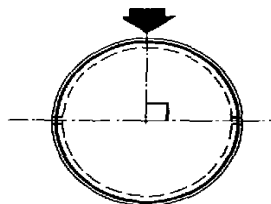

Fig. 205. Piston ring gap location, KKK-turbo
- Fit the piston type rings (10) in the grooves in the turbine rotor shaft and carefully feed the bearing housing over the shaft.
- Adjust the piston type rings so that their gaps are displaced at 180° to each other. Press the rings together and push them into the bearing housing with the gaps displaced at 90° to the oil inlet (fig. 205). Check that the radiation shield rotates freely.
- Smear the end cover sealing surfaces with a thin coating of sealing agent and tighten it to the bearing housing with new self-locking screws (3). (If the old screws are re-used, then they must be locked with Loctite locking fluid).